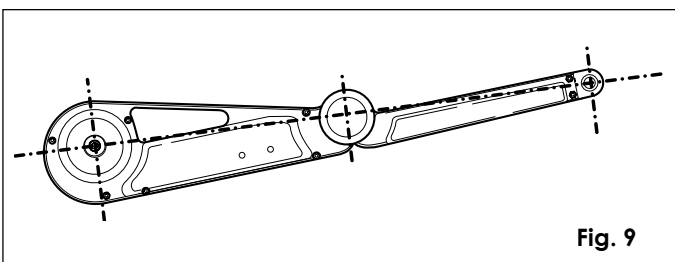

Fig. 9
- Establish the position for securing the front fitting on the leaf - take the operator (fully extended) close to the fitting, with the 3 rotation points aligned (fig.9). Check if the operator and fitting